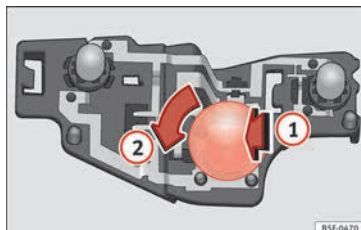

Fig. 120 Position of the bulbs in the bulb holder
- Lightly press the defective bulb into the bulb holder » **Fig. 120 1**, then turn it to the left **2** and remove it.